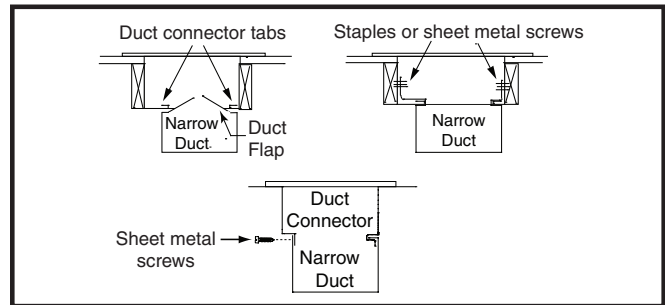

Figure 13. Narrow Ducts
4. Bend the tabs on the bottom of the duct connector upwards and as tight as possible against the supply air duct. See Figure 13 \(page 9\).